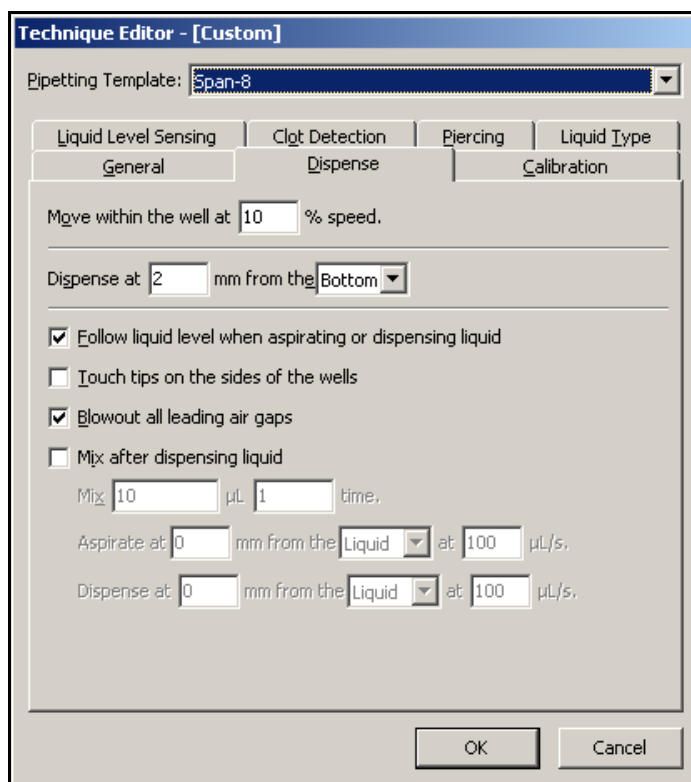

Figure 6-5. Dispense tab of the Technique Editor
2. In the **Destination** configuration fields, select **Customize**. The **Technique Editor** opens to the **Dispense** tab (Figure 6-5).
1. From the **Dispense** tab (Figure 6-5), check **Mix after dispensing liquid**. The fields for this option are enabled. We'll allow some of the defaults to remain except for the amount and number of times to mix.